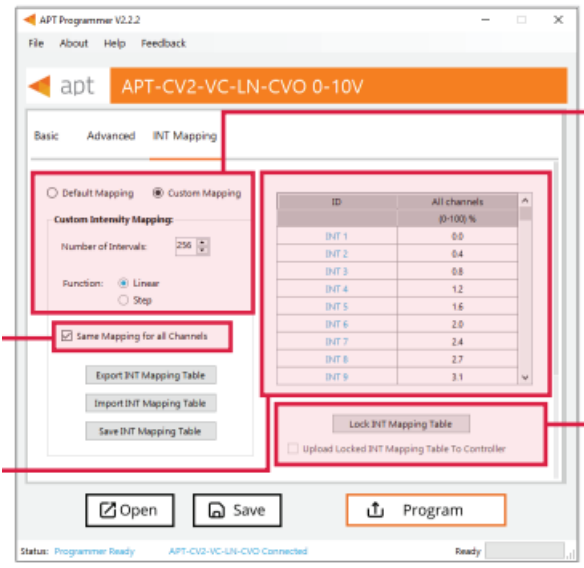

Figure 11: Programmer Interface Window – INT Mapping Tab
- Click Lock CCT Mapping Table to prevent changes from being made to the mapping table, this will also update the graph (shown in Figure 11).
- **Tip:** Scroll to the bottom of the window to see the graph (Figure 11) of the current mapping configuration.